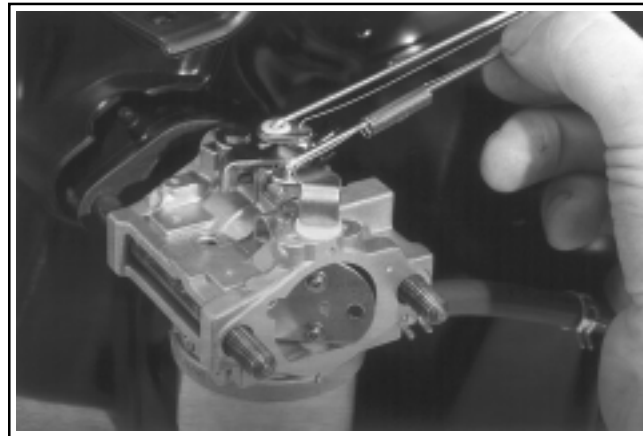

Figure 11-103. CS8.5-12. Attaching Choke Link and Dampening Spring.
3. **CS8.5-12:** Connect "Z" end of choke link and dampening spring to choke lever on blower housing or control bracket. Then connect the angled end of the link and spring into the holes of the choke lever on the carburetor as shown in Figure 11-103.